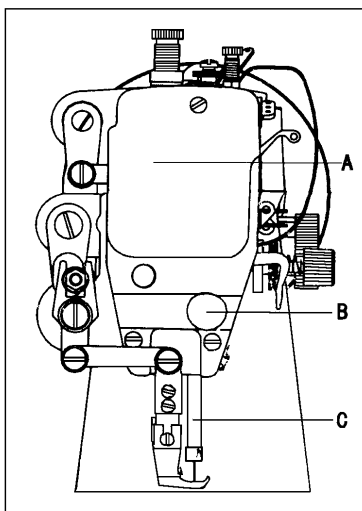

Fig. 17
## 16. TIME NEEDLE TO ROTATING HOOK ( Fig.17,18,19,20 )
A. Adjusting the needle position ( See Fig.17 )